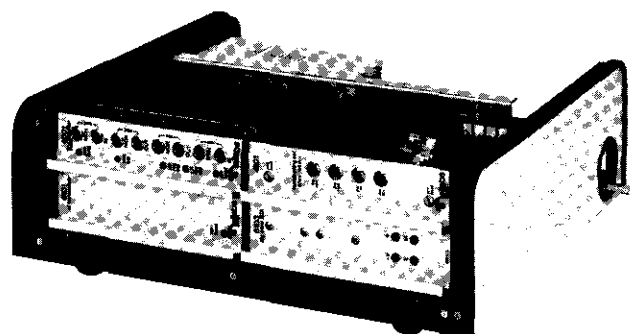

figure 1. 260 Signaling and Terminating System
1.01 The Tellabs 260 Signaling and Terminating System (figure 1) is a self-contained modular System that provides SF or DX signaling over a 4wire transmission facility, termination of the facility, alternate voice/data (AVD) capability, and E&M, foreign exchange (FX), or ringdown signaling toward a 2wire or 4wire termination. The 260 System is housed in the 260 Mounting Assembly, which is a specially prewired 1914XX Apparatus Case optionally equipped with its own power supply and ringing generator. Modules used in the 260 Assembly may also be used in other types of apparatus cases, or the 260-System modules may be supplied alone for relay-rack installation and on-site wiring.